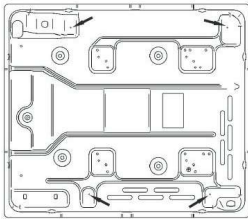

Fig. 1C
- To assemble, attach the 4 clamps to each corner of the Burner box via the screws provided (Fig. 1C).